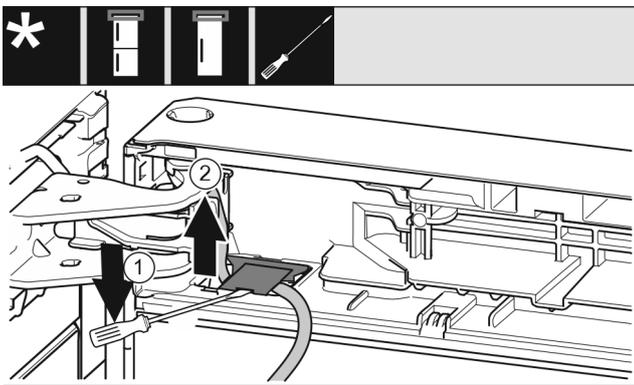

Fig. 11
- ▶ Use the slotted screwdriver to lift the cover up and pull it out. Fig. 11 (1)
- ▶ Pull the cable out. Fig. 11 (2)